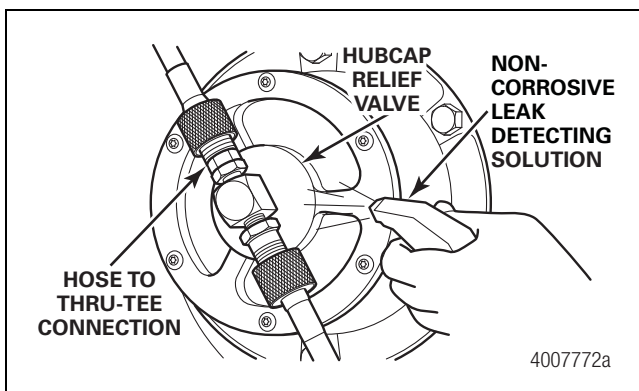

Figure 3.33
1. Spray a non-corrosive leak detecting solution to check the hose to the thru-tee connection and the hubcap relief valve for leaks. Figure 3.33.